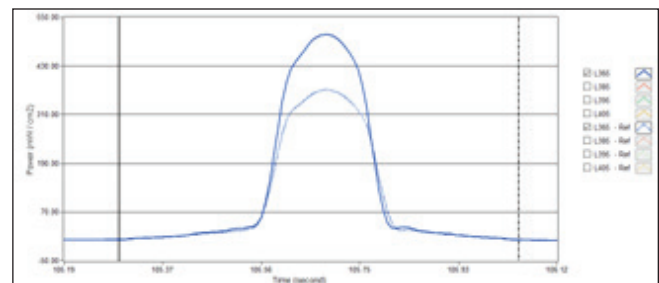
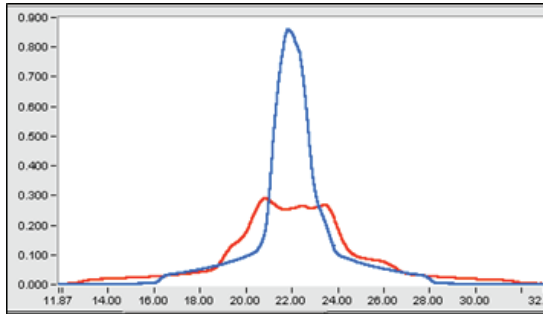

Figure 8.
Figure 9.
5. **Height Variations:** A profiling radiometer will allow users to see the impact of moving the source to different heights above the cure surface. Figure 8 shows an LED array, and Figure 9 shows a mercury source measured at different heights. The distance, system design, source position, reflector shape, secondary optics and shielding around the source can impact how the UV is delivered to the cure surface with changes in height.